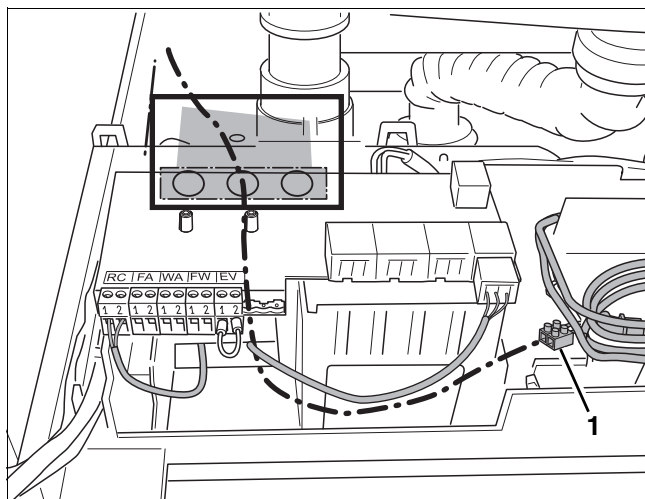

fig. 13 Routing the pump connection cable
- Route the pump connection cable from the boiler through the opening below the electrical connection box downwards (see fig. 13, [1]).